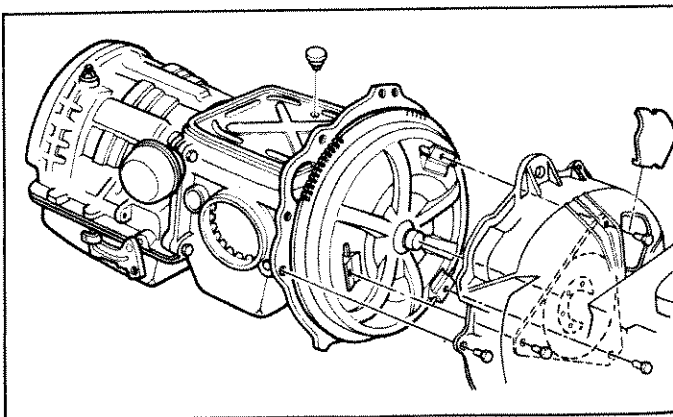

Fig. 48—Transaxle Separated from Engine
- Disconnect the converter from the engine flex plate by removing the three attaching bolts through the access hole at the 12 o'clock position in the converter housing (fig. 48). The converter may be rotated by prying against the starter gear teeth on the converter housing with a screw driver.